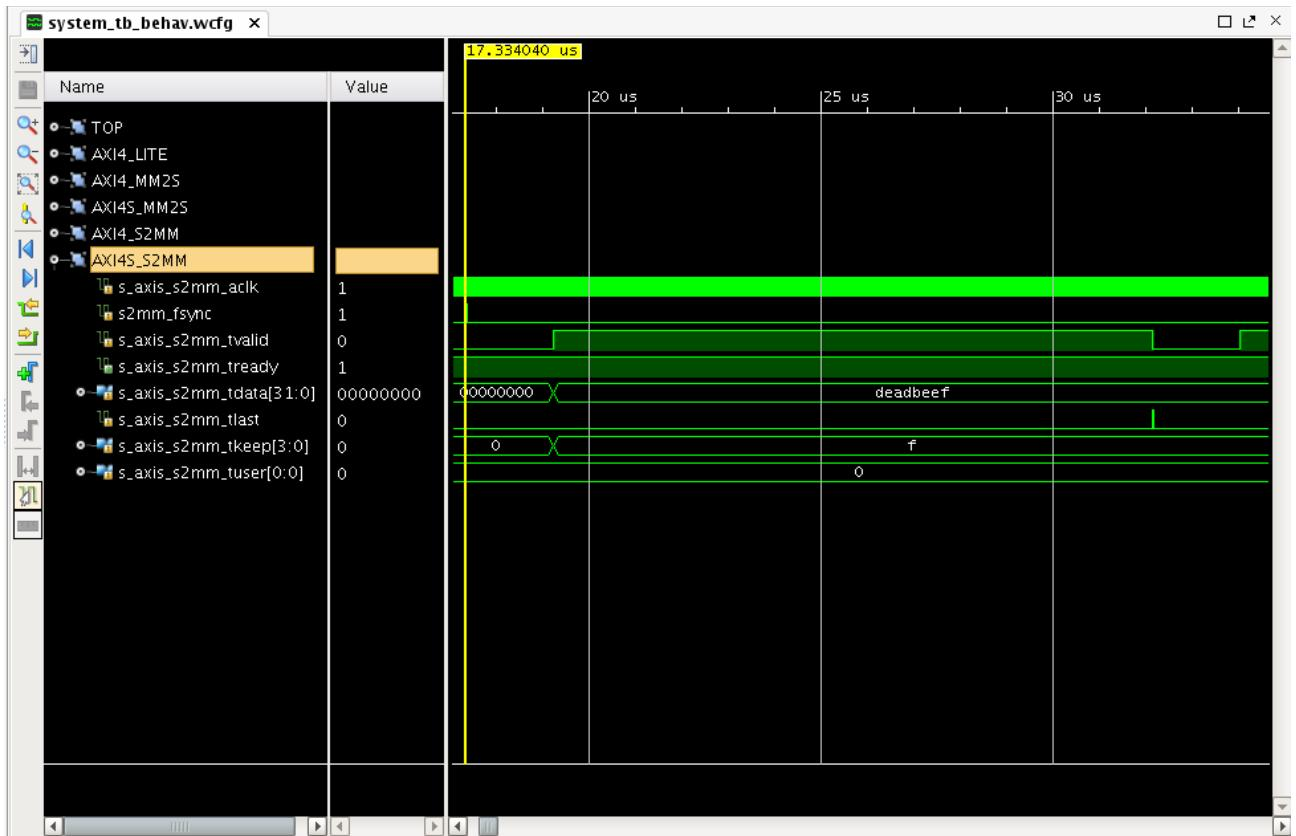

Figure 6: AXI4S_S2MM–Horizontal Line Complete
6. Expand the AXI4S_S2MM group and zoom in between $17.3 \mu\text{s}$ and $34.0 \mu\text{s}$. In this time range, `fsync` is asserted and `tvalid` (asserted by the AXI4-Stream master BFM) is asserted 280 clocks after `fsync`. `tvalid` is asserted for 1920 clocks and `tlast` is asserted on the 1920th clock to signify that the horizontal line is complete. `tready` (generated by the AXI VDMA core) is asserted before `fsync` indicating that the core is ready for write data from the AXI4-Stream interface. This behavior continues for the next line (280 clocks blanking period and then 1920 clocks of `tvalid` for one line). This is shown in Figure 6.